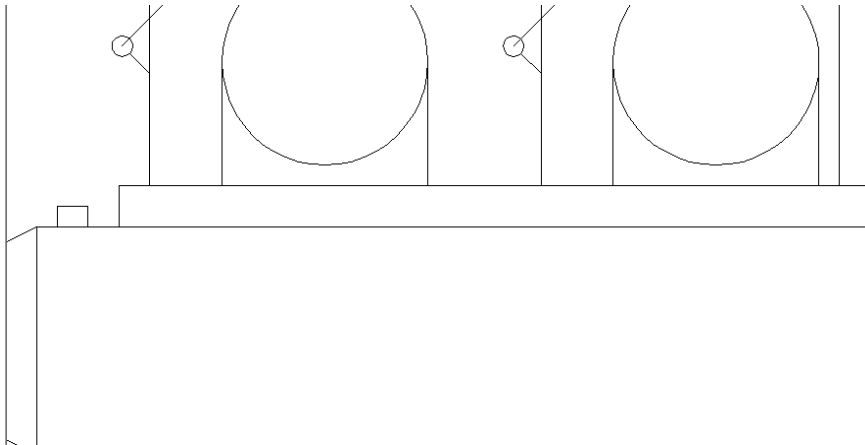

**Figure 8-2:** The final view. Your view may be somewhat different.
5. Click the right arrow on the horizontal scroll bar three times. The drawing moves slightly to the left each time. Your drawing should look something like Figure 8-2. You may have a different view if you chose slightly different pan points.